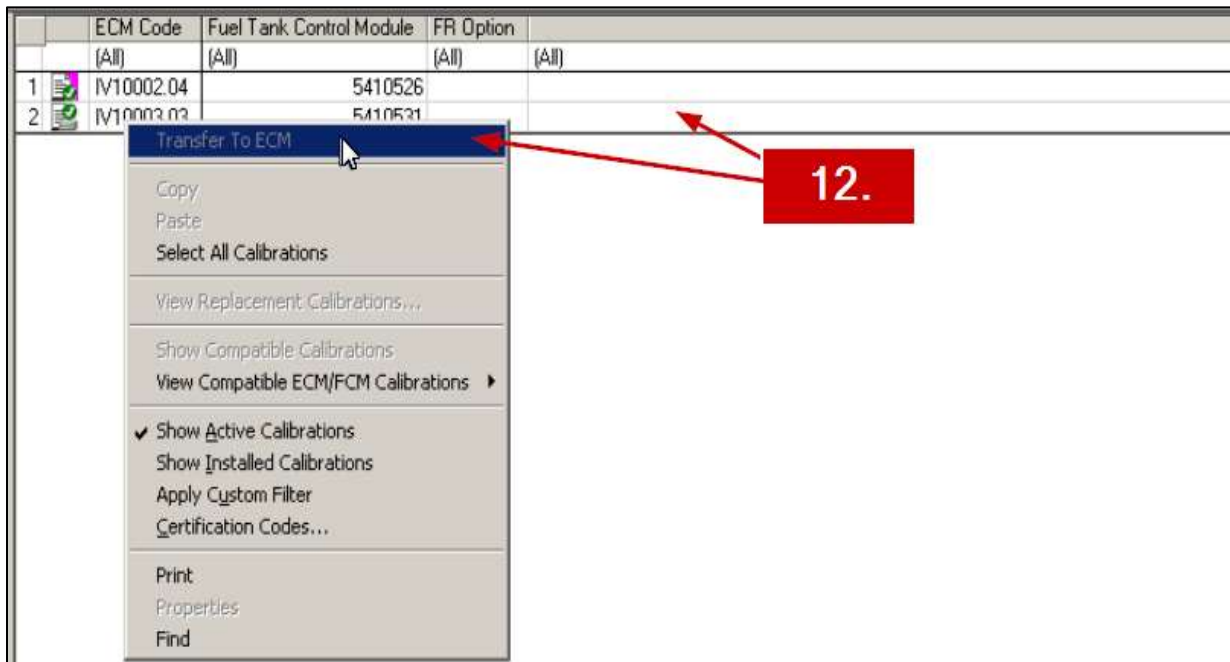

Figure 16.
Step 12: Right click on the calibration ID #, then click “Transfer to ECM” in the pull down menu. Figure 16